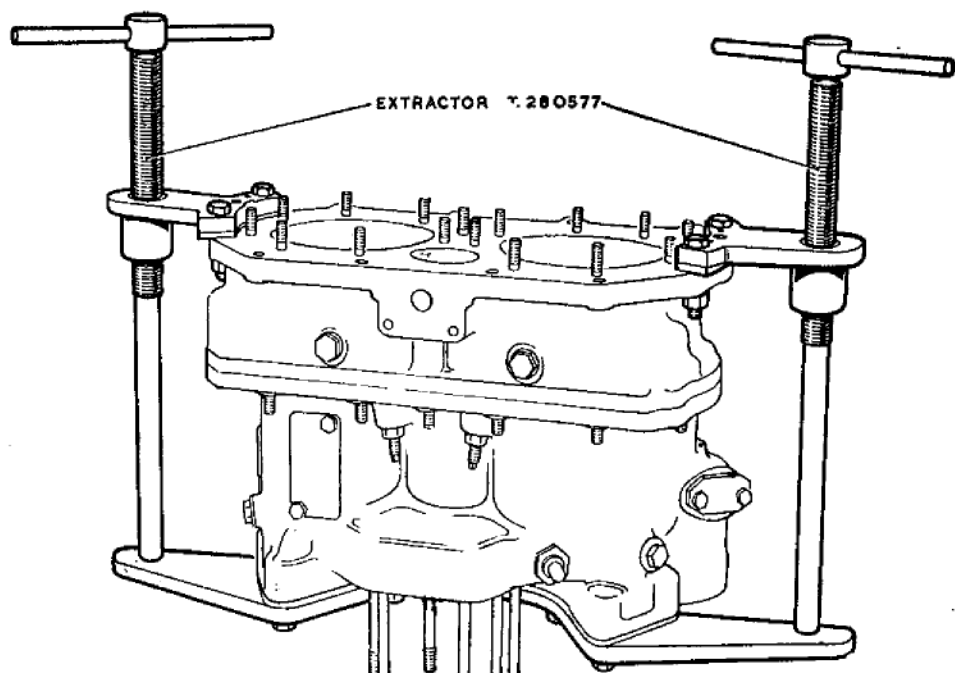

Fig. 7. Separating the pump body and camplate housing
34. Remove the trunnion blanking plugs (22) and fit locking screws tool T.206867 so that the trunnion bearings are attached to the pump body face. Upper and lower pump.
36. Separate the pump body (24) and camplate housing (45), using extractor T.280577 as shown in fig. 7.